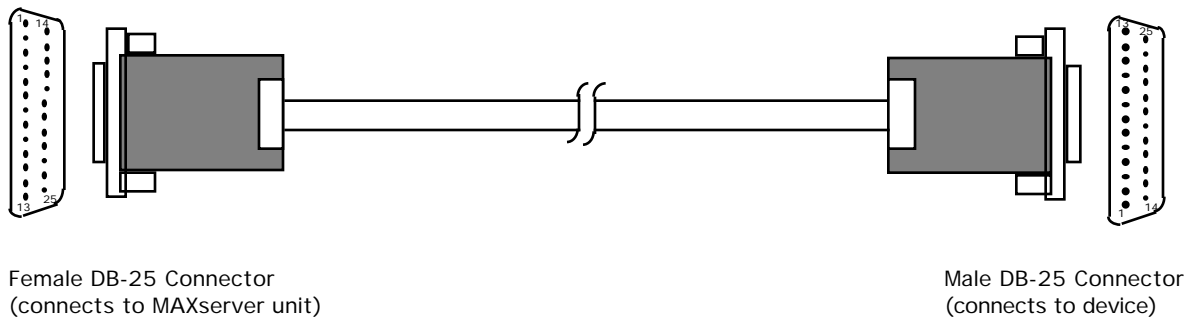
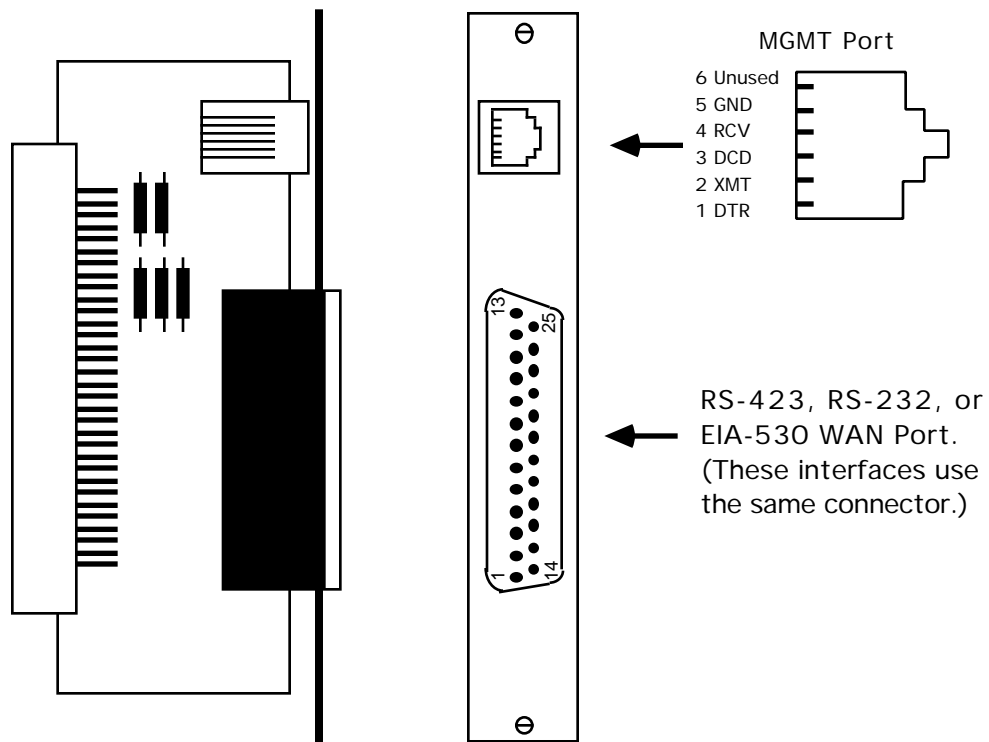

Figure 3-6. Xyplex-Supplied RS-423, RS-232, EIA-530 Cable
Figure 3-7. RS-423, RS232, EIA-530 I/O Module
- **RS-423/RS-232 cable, male DB-25 (25-pin) connector to female DB-25 (25-pin) connector, 4.57 m (15 ft).** The female DB-25 connector attaches to the RS-423 I/O Interface card, and the male DB-25 connector attaches to the device. The Xyplex-supplied cable consists of 15-wire cable and DB-25 connectors. Figure 3-6 shows the cable and the location of the pins in the connectors at each end of the cable. Table 3-3 describes the signalling scheme for the cable. Figure 3-7 shows the RS-423/RS-232 I/O Interface card.
- **EIA-530 cable, male DB-25 (25-pin) connector to female DB-25 (25-pin) connector, 4.57 m (15 ft).** The female DB-25 connector attaches to the EIA-530 I/O Interface card, and the male DB-25 connector attaches to the device. Figure 3-6 shows the cable and the location of the pins in the connectors at each end of the cable. Table 3-4 describes the signalling scheme for the cable. Figure 3-7 shows the EIA-530 I/O Interface card (which looks identical to the RS-423/RS-232 I/O Interface card).